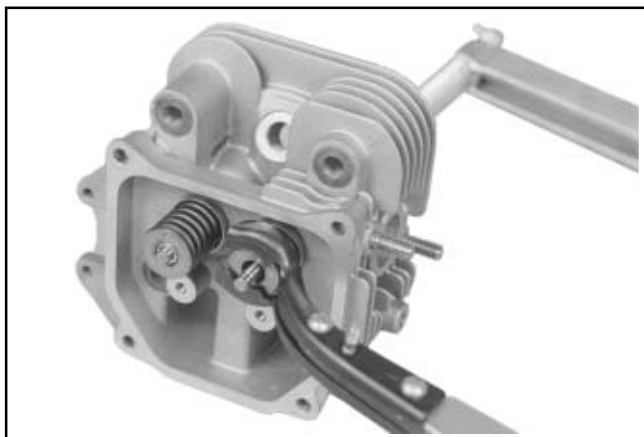

Figure 9-52. Removing Valves with Valve Spring Compressor.
2. Compress the valve springs using a valve spring compressor. See Figure 9-52.